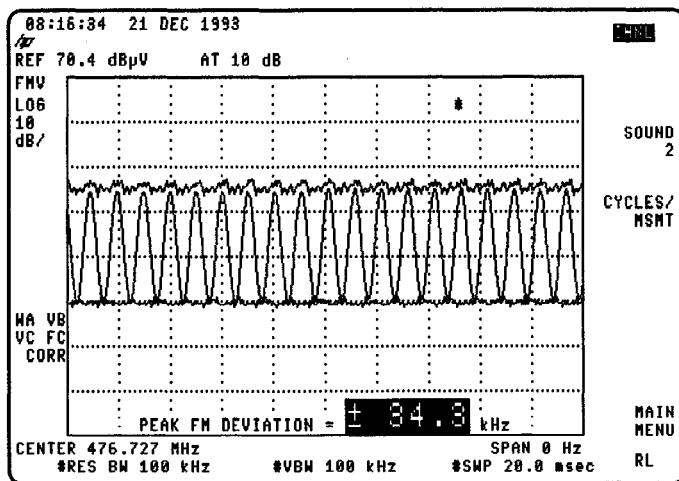

Figure 2-28. FM Deviation
2. The result is displayed as shown in Figure 2-28.